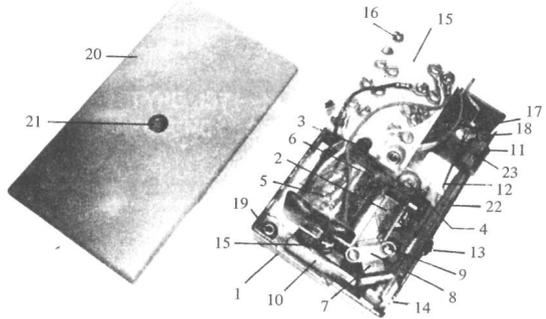

FIGURE 2 TOP VIEW - COVER REMOVED
1.03 The 137 compact ringer is a single coil, single gong, frequency selective type of unit, with a volume control, assembled on a die-cast metal base and fitted with a molded plastic protective cover. (See Figure 2) In combination with types 136 and 138 it provides a complete range of units which meet the requirements of every class of service for compact telephone line main or extension ringers. Screw terminals are provided for all lead connections (see Figure 3A) and the base casting is fitted with shock absorbing rubber feet.